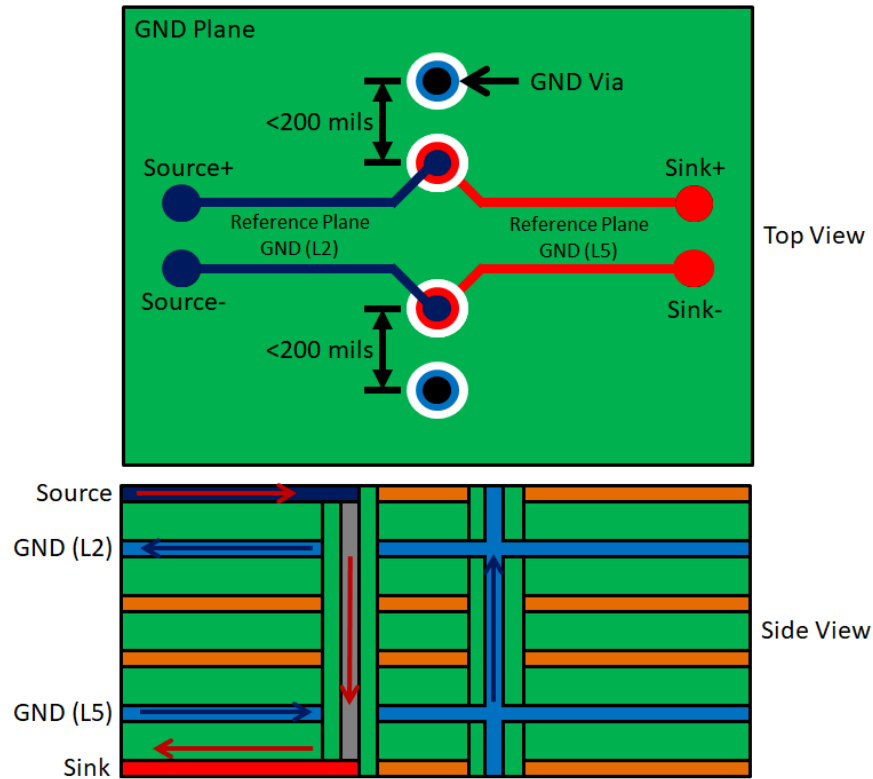

Figure 2-3. Differential Pair Via Return Path With GND Vias
- Be careful with the return current when changing the layers. Use ground vias around the signal via to make sure that the return current can flow as close as possible to the signal via (see Figure 2-3)